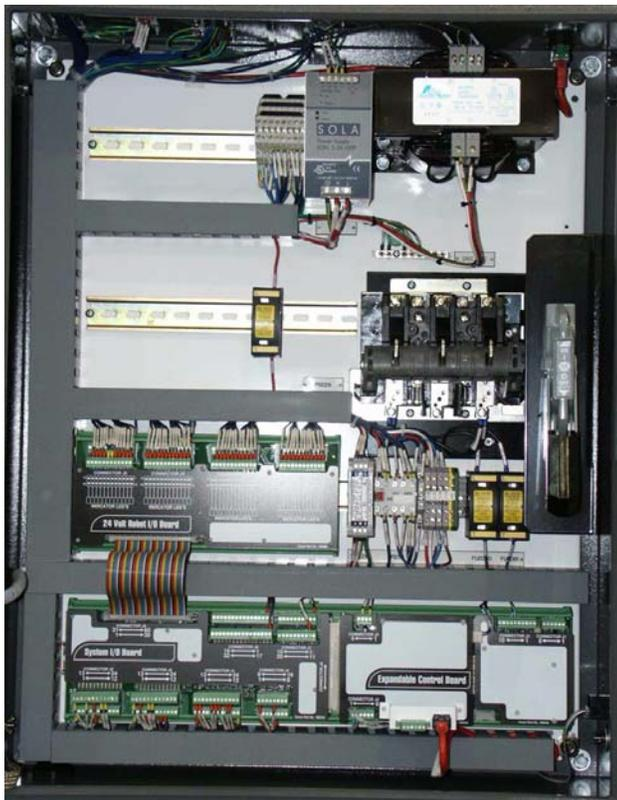
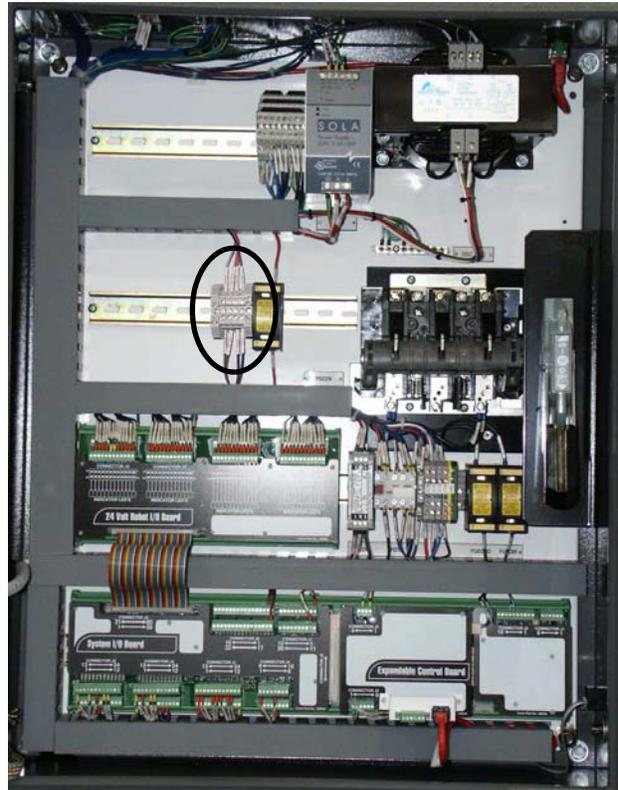

FIG. 6
FIG. 7
2. Install the terminal blocks (202) by snapping it into place in the dinrail of the PrecisionFlo control box. See FIG. 6 and FIG. 7.